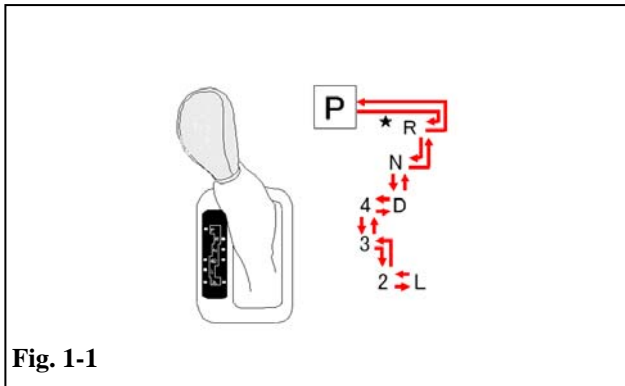

Fig. 1-1
-  (b) Put automatic transmission in "P" (Fig. 1-1).